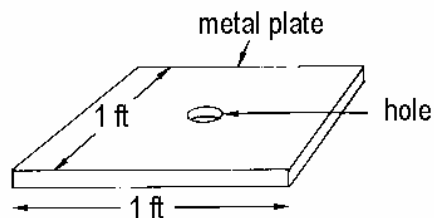

Figure 8 - Grounding plate
2) Grounding plates - Though more difficult to install, plates can achieve very low earth resistance values. The plates must have at least 2 square feet of surface contact with ground (i.e., front and back of a 1 ft x 1 ft plate; see figure 8). Such a plate would have a 50% larger surface area than that of the 8-foot ground rod listed above. Plates should be a minimum of 1/4-inch thick if iron or steel, or 1/16-inch thick if nonferrous. Do not use aluminum because it quickly oxidizes and greatly increases resistance to earth.